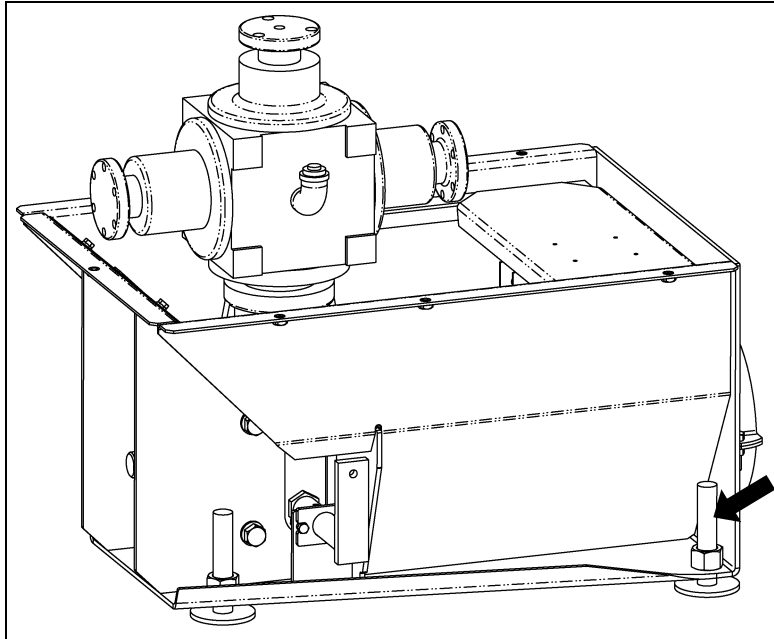
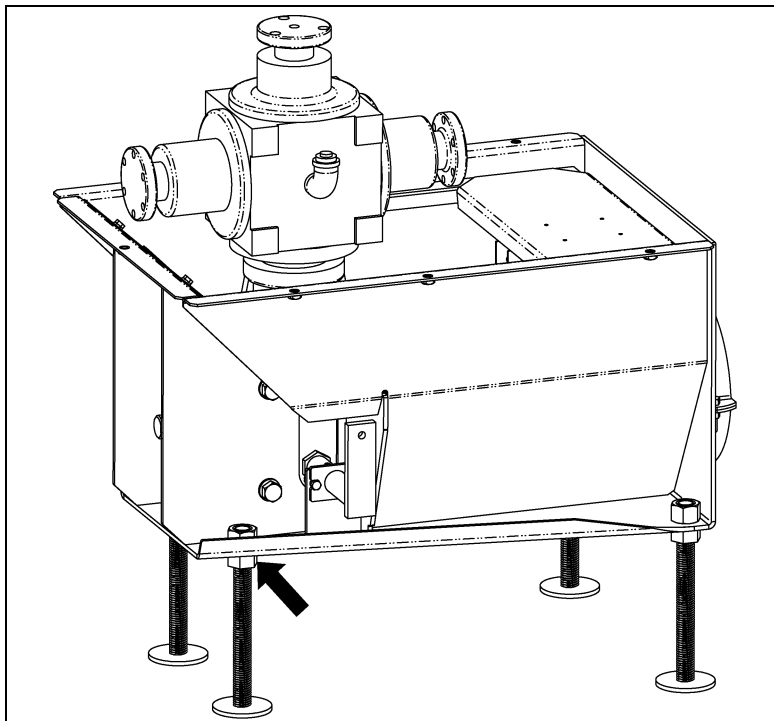

Figure 5B
Figure 5C
5. Turn the four (4) threaded sump legs into the welded nuts on the Grain Flow sump. If floor height is 12" or less, thread the 4" legs into the welded nuts on the Grain Flow sump and put locking jam nuts on top of the welded sump nut.
If floor height is greater than 12", thread the four (4) 3/4" jam nuts onto the threaded sump legs, then finish by threading the legs into the welded nuts on the Grain Flow sump. (See Figure 5B and Figure 5C.)